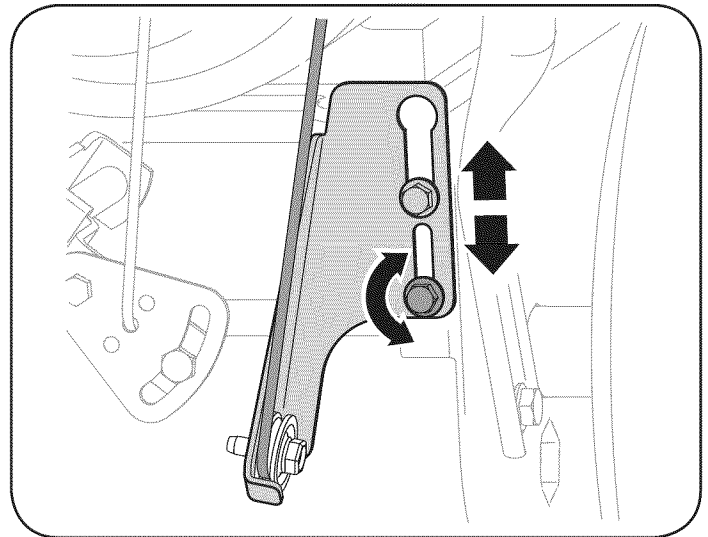

Figure 27
- b. Loosen the lower hex bolt on the drive cable bracket. See Figure 27.